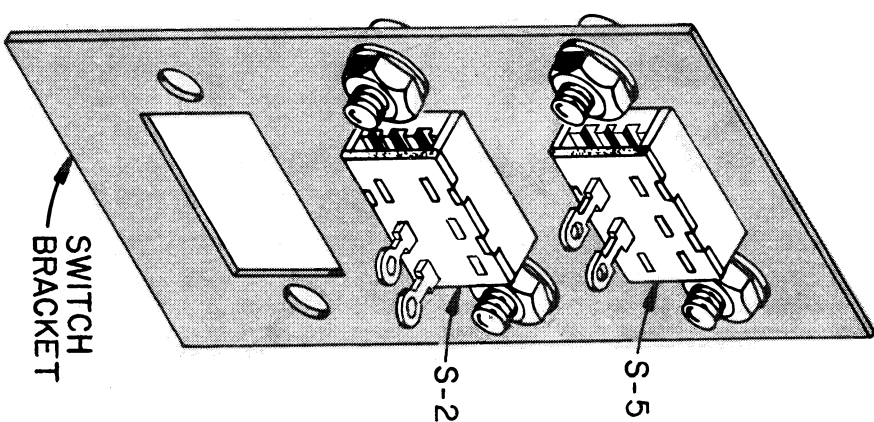

FIGURE 3
SEE FIGURE 3.
- ☑ S-5, the red-button slide switch. Insert the body of S-5 in the top hole, so the end without a terminal is positioned as shown in Figure 3. Fasten with two 4-40 screws, lockwashers and nuts.